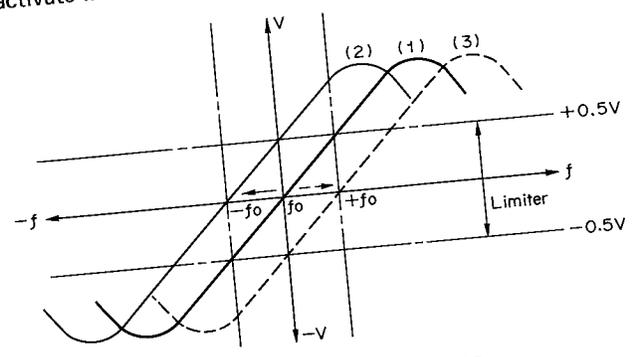

Fig. 2.6 S-Curve and AFC
In the conventional AFC circuits, it will sometimes become impossible to locate a minor broadcasting station if sandwiched by major broadcasting stations, but the N-430 limits such through its limiter (See Fig. 2.6). As either Q703 or Q705 will turn to ON depending on the direction of out-tuning, the base potential of Q709 will become higher than the emitter potential of Q709, as a result of which Q709 will turn to OFF. Thus Q710 will turn to OFF, and Q711 and Q712 will turn to ON, thus mute will operate (only while Mute Switch is depressed).
(7) Relation between S-Curve and AFC
Refer to Fig. 2.6. The S-Curve when perfect tuning is completed is shown by curve (1), whereas imperfect tuning for some reasons will be shown either by (2) or (3), when AFC will operate to vary to oscillator frequency (f_0) to become either $-f_0$ to $+f_0$ (variation will depend on the frequency differred). If such variation exceeded the limiter range, the AFC circuit will stop operation and the Frequency Sensor will activate in its place.